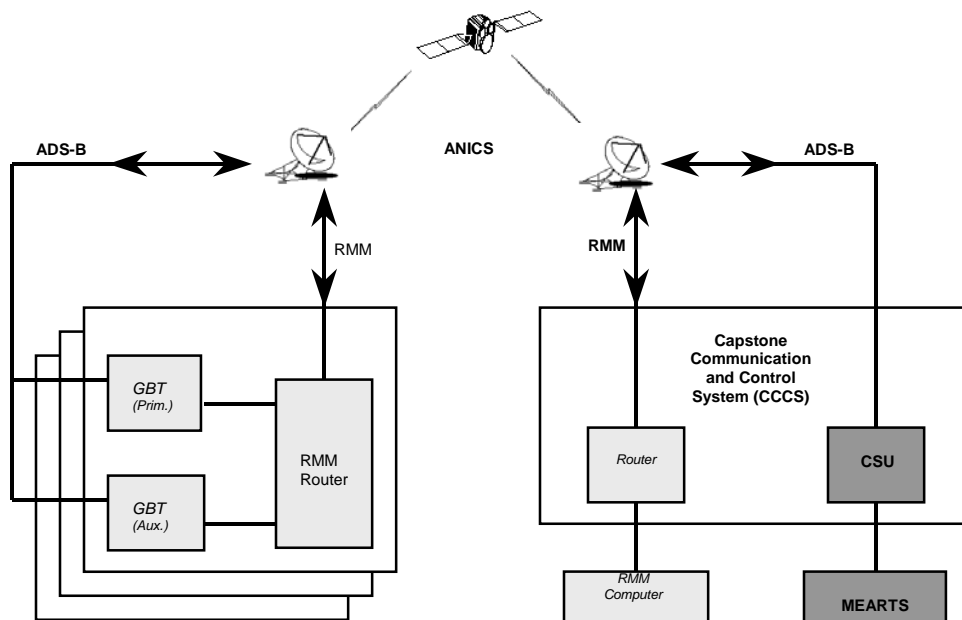

Figure 6-1 RMM Structure
a. Figure 6-1 depicts the structure of the Remote Maintenance Monitoring (RMM) connectivity. Through a computer set up for the purpose, it is possible to access each GBT individually and verify or modify configuration and maintenance functions. These functions are resident within software modules as described in Chapter 2, paragraph 205. There are several functions within these modules that are of a specialized nature and not directly associated with routine maintenance functions. These specialized functions will not be discussed. Only those functions related to routine maintenance and troubleshooting will be discussed. It should be noted that all these RMM functions could be accessed directly at the GBT front panel for local maintenance support, as well.